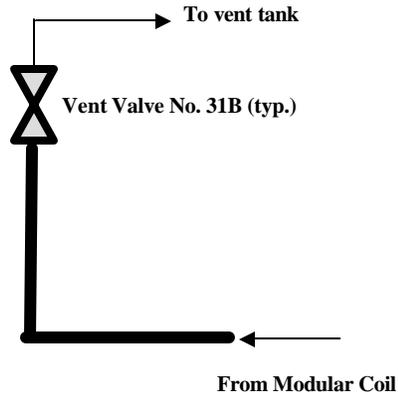

Figure 6- Typical Zone 3 Valve Assembly
- 6.15.12 Continue flowing epoxy into the coil via the Zone 1 and 2 valves until epoxy is observed exiting each of the Zone 3 (Vent) valves [31 thru 42]. Figure 6-Typical Zone 3 Valve Assembly. **Close** each Zone 3 vent valve once epoxy reaches the control panel.